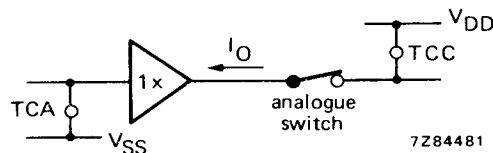

Fig. 9 Equivalent circuit for note 5.
5. The analogue switch is in the ON position (see Fig. 9).